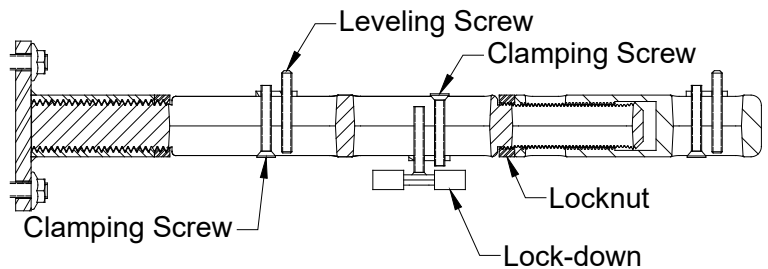

Fig. 9
9. Obtain locations of leveling screws and lock-down, provided by the lavatory manufacturer, and adjust the leveling screws and lock-down hardware as needed. Loosen the clamping screws to adjust the washers for leveling screws and lock-down to desired locations then tighten. Adjust arm extension as required and tighten locknut against extension until snug. Ensure a minimum thread engagement of 1 inch. See Fig. 9